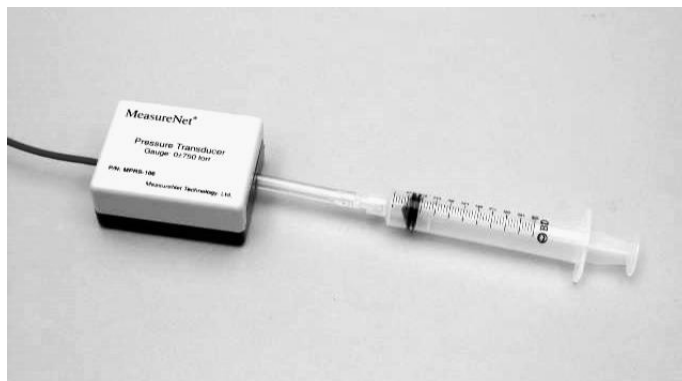

Figure 12-2. Setup for P-V Measurements.
3. Obtain a 10 mL syringe equipped with a Luer fitting. Set the bottom ring seal on the plunger to the 2.0 mL mark on the syringe (as precisely as possible), then connect the syringe to the pressure sensor as show in **FIGURE 12-2**. **Note: the Luer fittings are threaded—they should be connected or disconnected by screwing or unscrewing, not cramming together or yanking apart.** Note the pressure reading on the workstation display. Press START/STOP to record P_{sensor} and then enter the volume reading on the syringe (for this first point, for example, V_{syringe} will be 2.0 mL) when prompted, pressing ENTER when finished. Note the entries counter at the bottom of the display now reads '1'. Record the pressure and volume measurements on your report sheet.